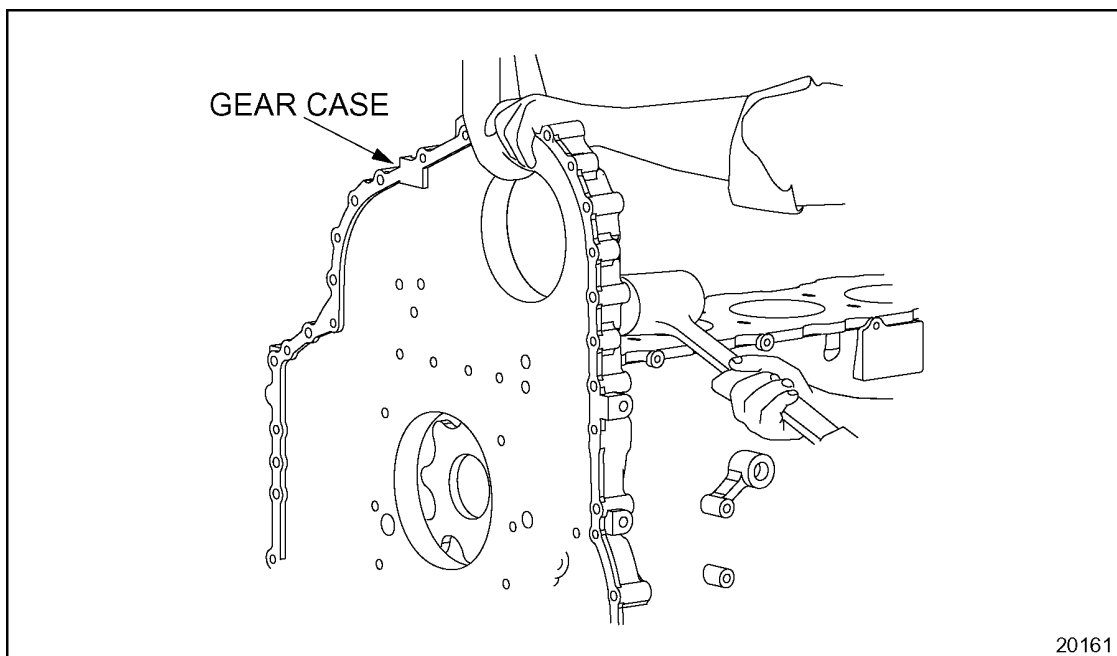

Figure 1-182 Gear Case Removal
16. Using a leather or cloth-wrapped strap, support the gear case. See Figure 1-182.